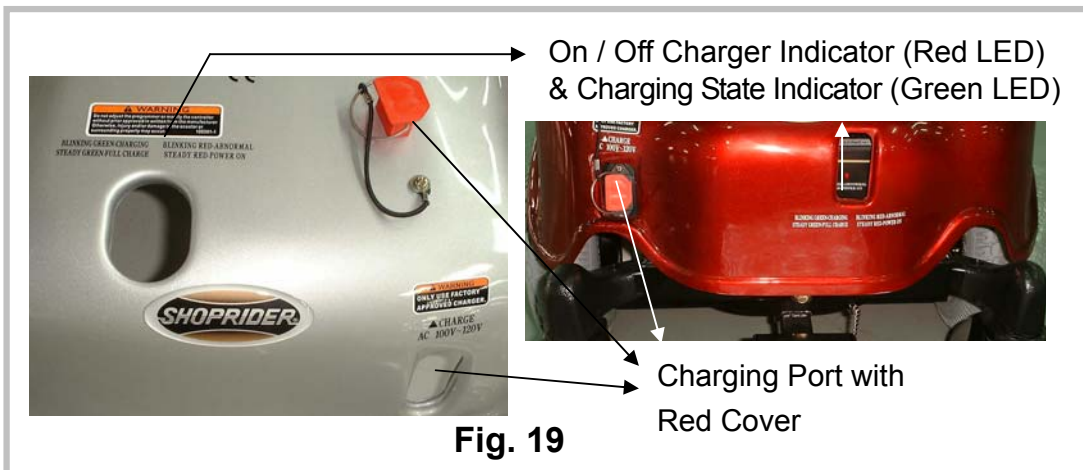

Fig. 19
On-Board battery charger is set beneath the shroud as Fig.19. Charging procedures are as the following:
2. Plug AC power cord with female connector into the charging port shown as Fig.19.